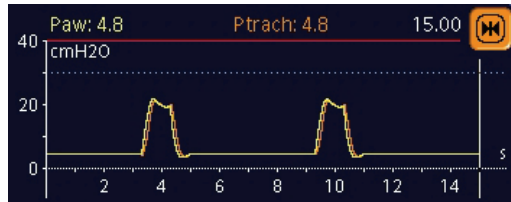

Figure 6-12. Freeze function
1. Select the freeze button in the right upper corner. This freezes the graphic (Figure 6-12).